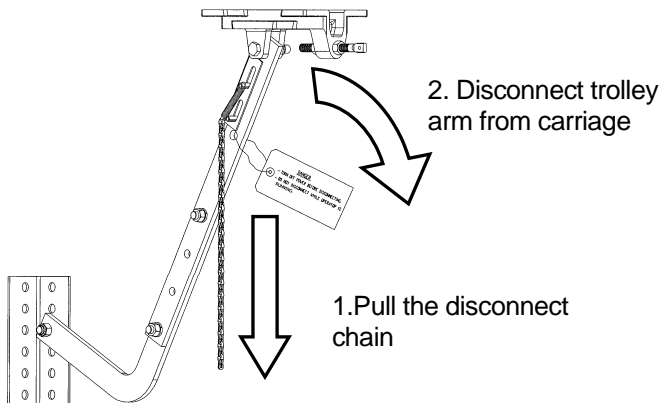

Figure 27 Disconnecting arm from carriage
1. Pull the disconnect chain downwards and disconnect trolley arm from carriage (Figure 27)
3. To return to electrical operation merely re-attach trolley arm to carriage by pulling on trolley disconnect chain while re-inserting arm onto carriage (Figure 27). **Do not attempt to disengage the door while the operator is running or do not attempt to manually force a malfunctioning door to open or close.**